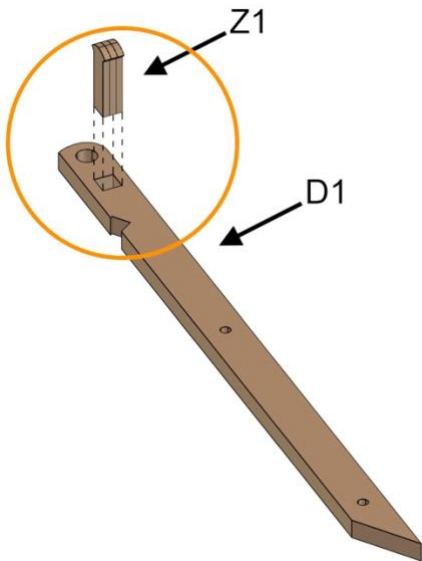

Fig. 45
- Align parts exactly as shown in *Fig. 45*.